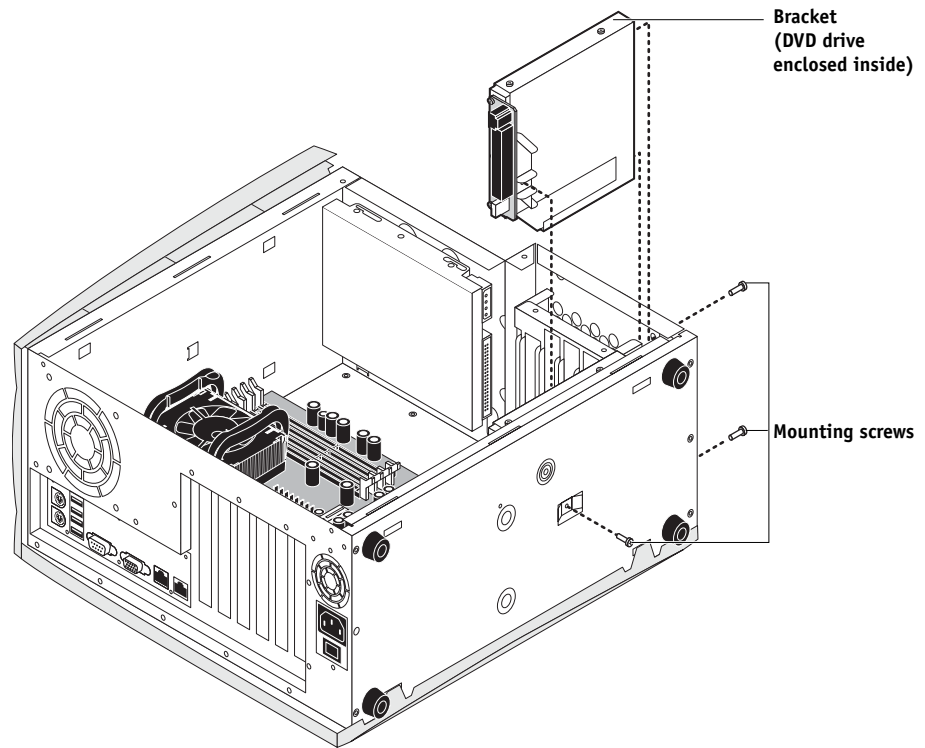

FIGURE 4-31 Removing/replacing the DVD drive and bracket
5. While supporting the DVD drive and bracket assembly, remove the screw on the bottom of the chassis and the two screws on the front of the chassis that attach the bracket to the chassis (see Figure 4-31).
1. Position the bracket inside the chassis and align the mounting holes with the three holes in the chassis (two in front, one on the bottom; see Figure 4-31 on page 4-54).